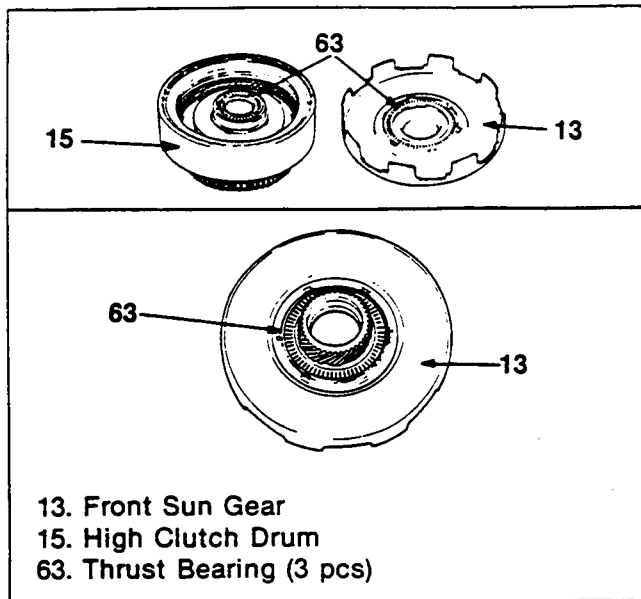

Figure 29. Thrust Bearing Inspection
2. Remove thrust bearings (3 pcs) (figure 29).
Inspect (Figure 29)